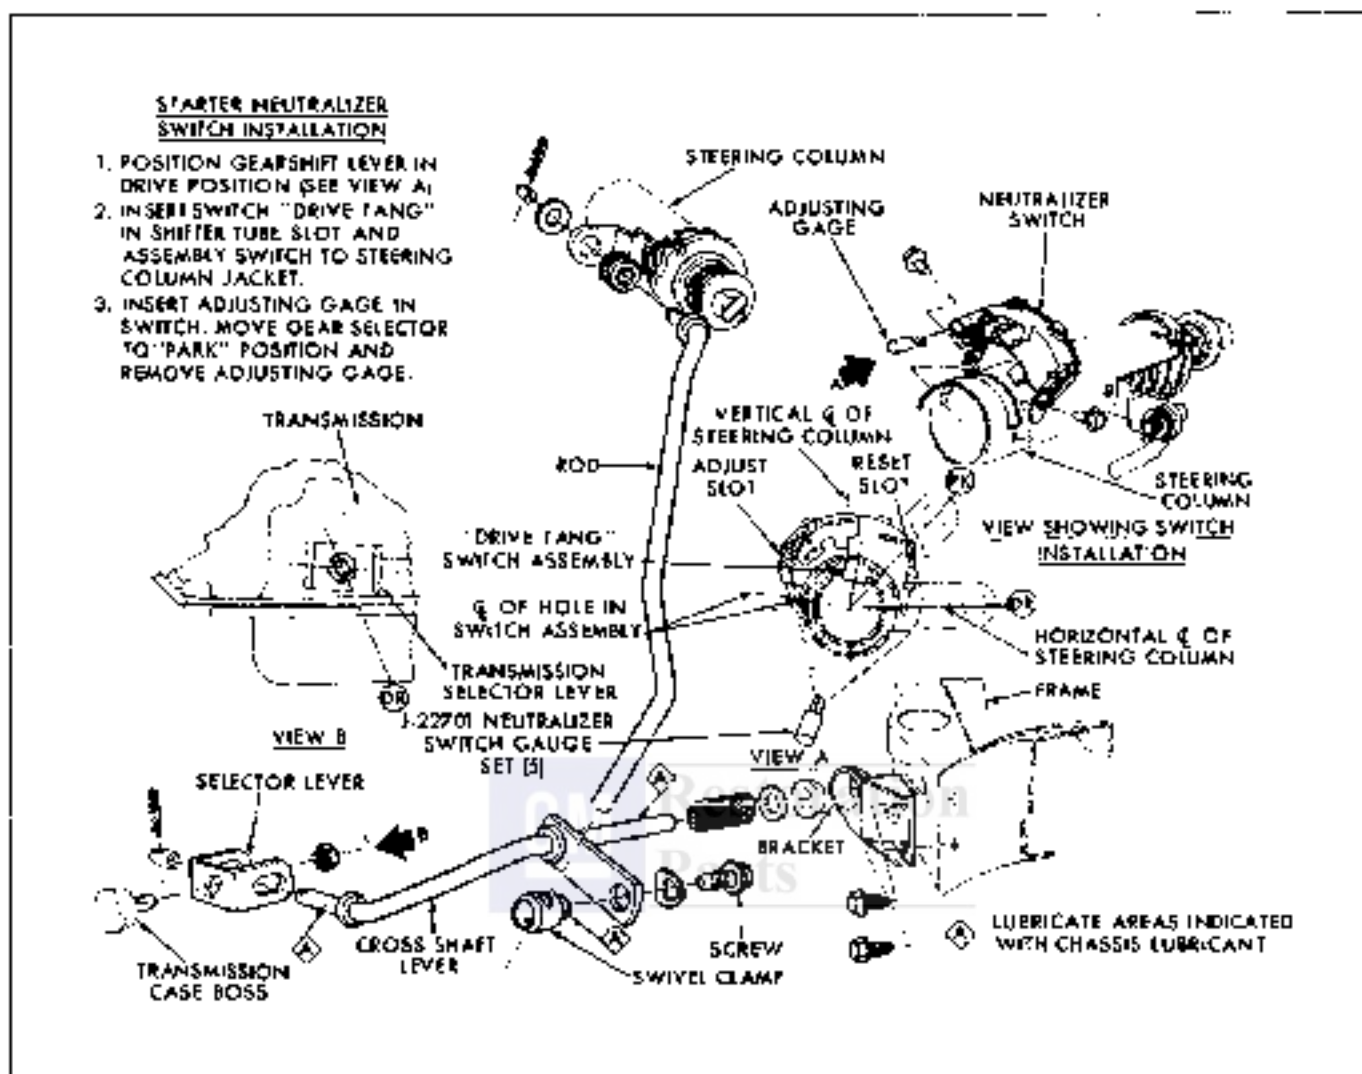

Fig. 7F-5 Transmission Column Shift Linkage
5. Support end of governor sleeve (not gear) on a wood block. Install new roll pin; then using small cone, strike pin in place at both ends of pin to prevent pin from becoming loose (Fig. 7F-12).